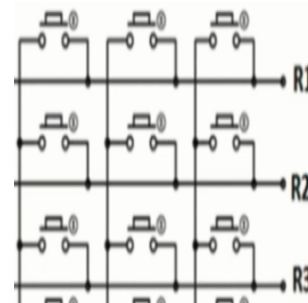

Fig. 3: keypad
- For making keypad using push buttons connect the pushbuttons as in figure 3.